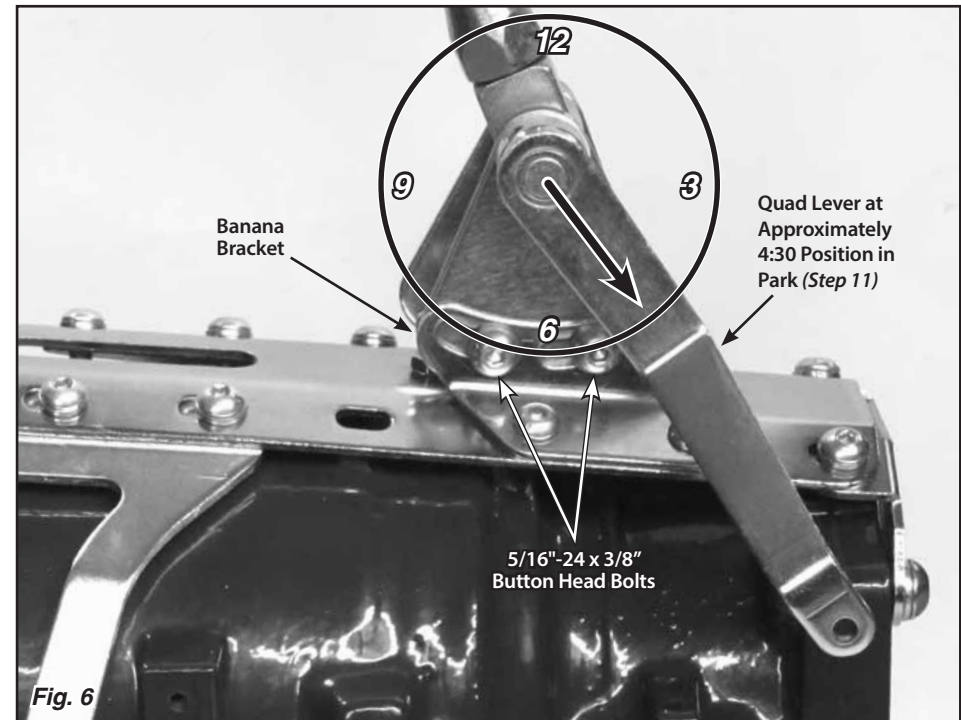

Fig. 6
- Step 10:** Make sure the two 5/16"-24 x 3/8" button head bolts that attach the left side banana bracket to the shifter assembly (in the curved, slotted holes) are tight. Before tightening the shifter assembly down to the main plate, move the shifter lever through all the gear positions. Make sure that the shifter lever and knob will not come in contact with the dash or the seat. The shifter assembly can be tilted forward or backward if needed by loosening the 5/16"-24 x 3/8" button head bolts in the curved, slotted holes in the left side banana bracket. **Fig. 6**
- Step 11:** Put the shifter lever into the Park position and check the position of the quad lever. It will need to be pointing to about the 4:30 position. If it is not, loosen the set screw in the top of the quad lever with a 1/8" Allen wrench and slide the quad lever off of the shaft. Reposition it on the shaft at approximately the 4:30 position, and retighten the set screw. **Fig. 6**
Double check to make sure that the bolts connecting the **left** side banana bracket to the shifter assembly are tight. **Fig. 6**